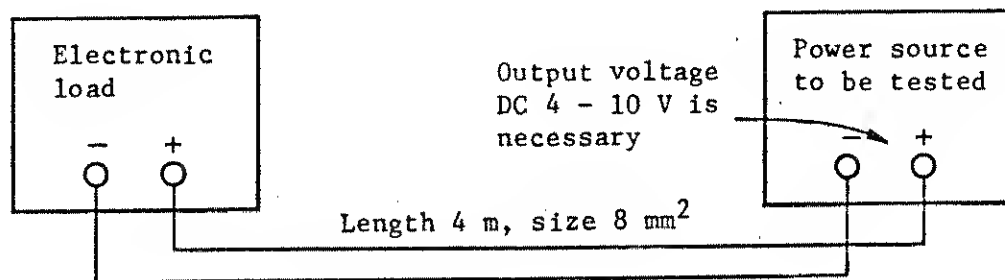

Figure 2-1-4
- ⑭ C.R RANGE. Switch to change resistance range in at the constant resistance mode. Switching to the 100 to 1000 Ω range is made by using the terminal board on the rear panel.
- ⑮ C.C RANGE. Switch to change the range for constant current mode.
- ⑯ FUNCTION. Either of the following four constant current modes may be selected: EXT (External Voltage Control), INT (Manual Control), SW (Switching Operation), and DC (DC Operation).
- ⑰ PRESET. By depressing this switch, current value or resistance value will be indicated on the digital ammeter depending on the state of the mode switch. At the constant current mode, current value may be preset by either CURRENT I or CURRENT II dial which is selected by the manual switch. At the constant resistance mode, resistance value may be preset by the CURRENT/RESISTOR dial.
- ⑱ PRESET W INPUT POWER. Loading power (watt) is indicated on the voltmeter while power limit value is indicated on the power indicator.
- ⑲ POWER LIMIT. Semi-fixed adjuster to change power limit value. The value may be set by use of the power indicator while depressing PRESET W switch.
- ②① CURRENT MONITOR. Current monitor terminals (10 mV/A). At the switching mode, current wave form and switching frequency and duty may be adjusted through an oscilloscope.
- ②② DC INPUT. Rear panel input terminals installed in parallel connection to DC INPUT terminals on the front panel. The highest range of the constant resistance mode may be set at 100 to 1000 Ω by combination of the short pieces, $\times 10$ and $\times 1$.
- ②③ 120 V AC 50/60 Hz. Power supply cable.
- ②④ Fan Blowout Opening. Air blowout opening of clean package. Do not place anything sensitive to heat around the unit, since hot air is expelled. Also, be certain to place the unit at a distance of 30 cm or more from the wall.
- ②⑤ Terminal Base. The terminal base is installed for external controls. (See Fig. 2-1-4). Terminals for the following operations are installed: External voltage control and resistance control under the constant current mode; external voltage control, sensing and one-controlled parallel operation; sensing under the constant voltage mode; and external control of the LOAD switch.
- ②⑥ Option Unit Installation Holes. Screwed holes for installing the DPO series (Digital Programmable Options).